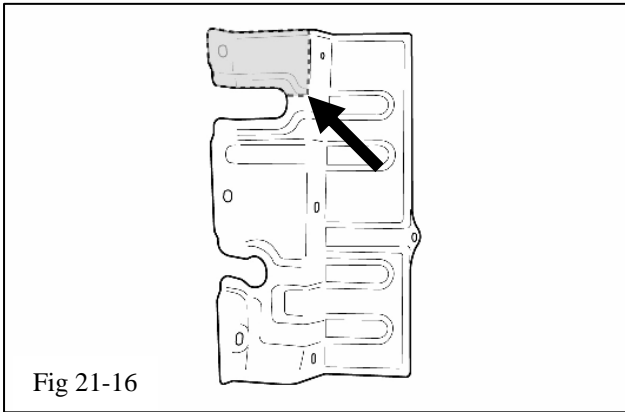

Fig 21-16
- (o) Trim and remove the corner area as shown (Fig 21-16). Re-install the LH side deflector using 5 of the 6 original clips.